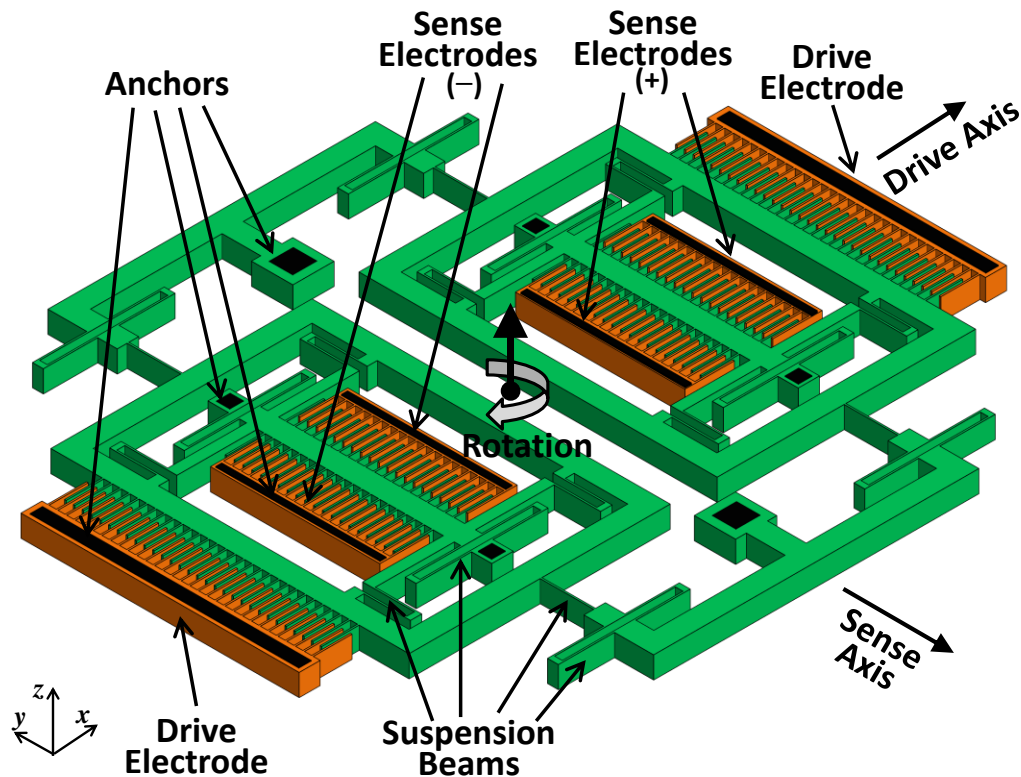

Figure PS7.1 – Perspective view of the gyroscope
This problem involves the MEMS-based micro-gyroscope as shown in Fig. PS7.1. In this device, momentum is generated by driving the proof mass into resonance vibration using the capacitive comb fingers along the x -axis. When the device is rotated about the z -axis (indicated in Fig. PS7.1), the vibrating mass will attempt to preserve its momentum in the original x -direction, which will then make the mass appear to deflect in the y -direction. This y -directed motion is then sensed by parallel-plate capacitors to determine rotation rate. In quantitative terms, the angular velocity Ω about z -axis generates a *Coriolis Force* ($F = 2m_s\dot{x}_d \times \Omega$ where m_s is the equivalent mass in the sense mode, and \dot{x}_d is the structure velocity in the drive mode) along the y -direction that drives the proof mass into y -directed vibration. The amplitude of the vibration is then picked up by the varying gap capacitances.
7. If the device is subjected to a rotation rate of $\Omega = 1$ rad/s along the z -axis indicated in Fig. PS7.1, what is the magnitude of the output voltage V_{out} if R_1 is set to 0Ω and R_2 is set to $10 \text{ k}\Omega$. Assume the differential amplifier employs an ideal op-amp.